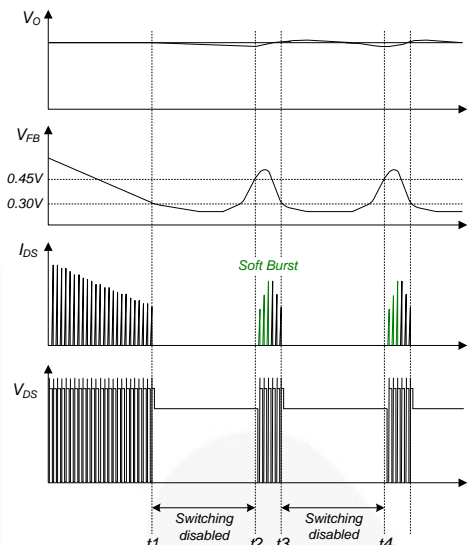

Figure 25. Burst-Mode Operation
**5. Soft Burst Mode:** To minimize power dissipation in Standby Mode, the FSL117MRIN enters Burst Mode. As the load decreases, the feedback voltage decreases. The device automatically enters Burst Mode when the feedback voltage drops below  $V_{BURL}$  (300 mV), as shown in Figure 25. At this point, switching stops and the output voltages start to drop at a rate dependent on standby current load. This causes the feedback voltage to rise. Once it passes  $V_{BURH}$  (450 mV), switching resumes. Feedback voltage then falls and the process repeats. Burst Mode alternately enables and disables switching of the SenseFET, reducing switching loss in Standby Mode.